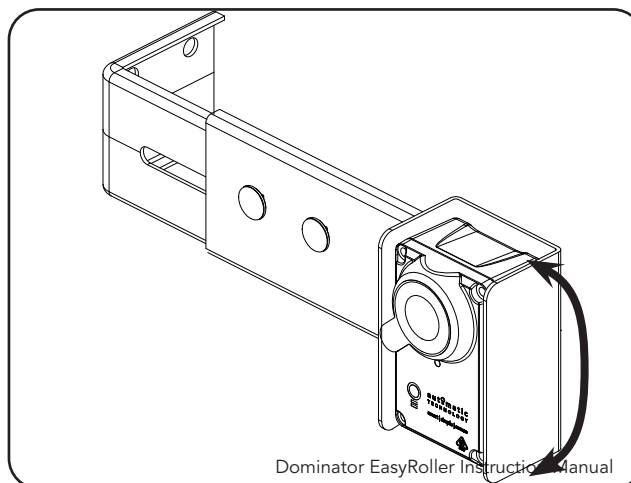

Fig 6.6.3
- Make horizontal and/or vertical adjustment on the transmitter and/or receiver until the red LED of the receiver turns steady on and operator stops beeping, indicating alignment (Fig. 6.6.3).